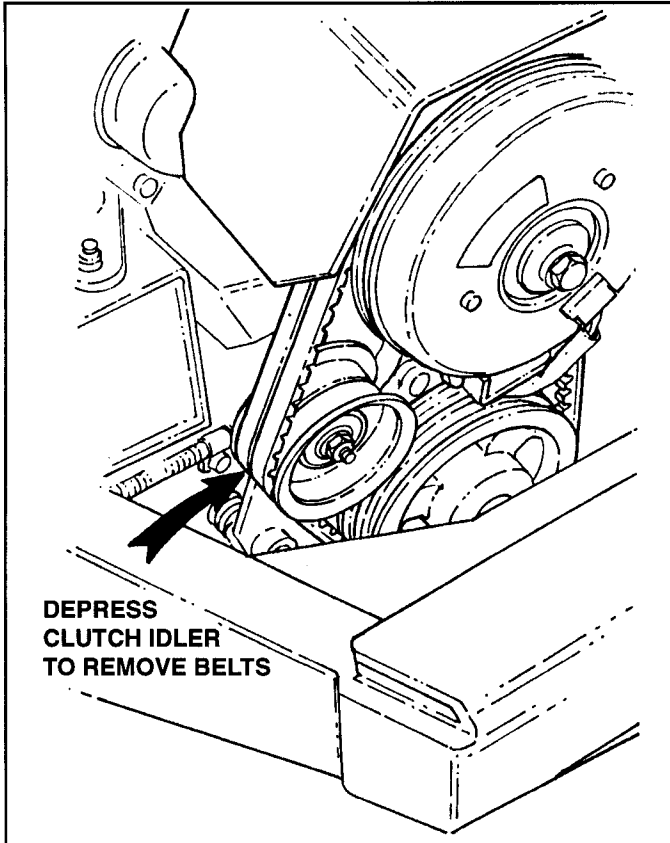

FIGURE 8.3
1. Depress Clutch Idler and remove both Deck Drive Belts. See Figure 8.3.